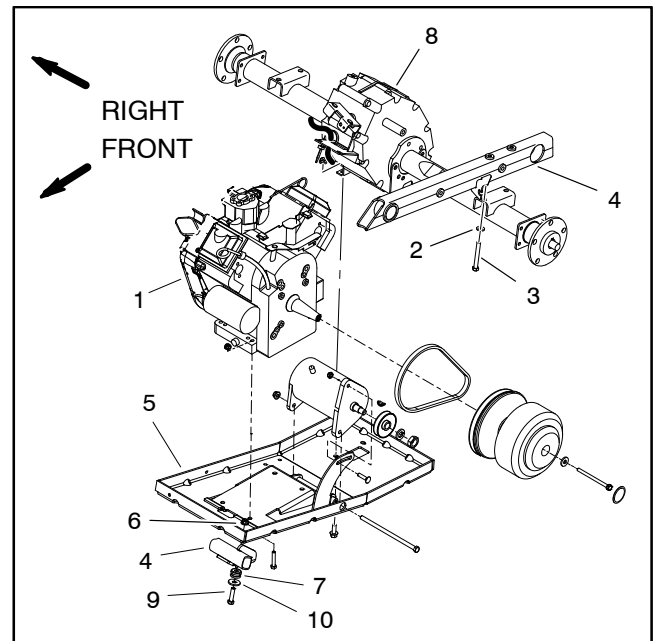

Figure 24
11. Remove both flange nuts, flat washers and cap screws that secure the engine tray to the swing arm (Fig. 24).
12. Remove four (4) cap screws and flat washers that secure the transaxle to the swing arm (Fig. 24).
3. Secure engine tray to the swing arm with cap screws, flat washers and flange nuts (Fig. 24).
4. Secure transaxle to swing arm with four (4) cap screws and flat washers (Fig. 24).